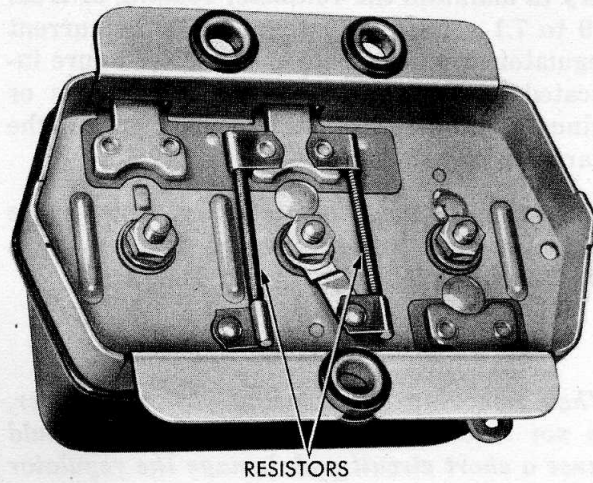

Fig. 16—Resistor Assemblies on Regulator
**Checking Resistors—Refer to Figure 16.**